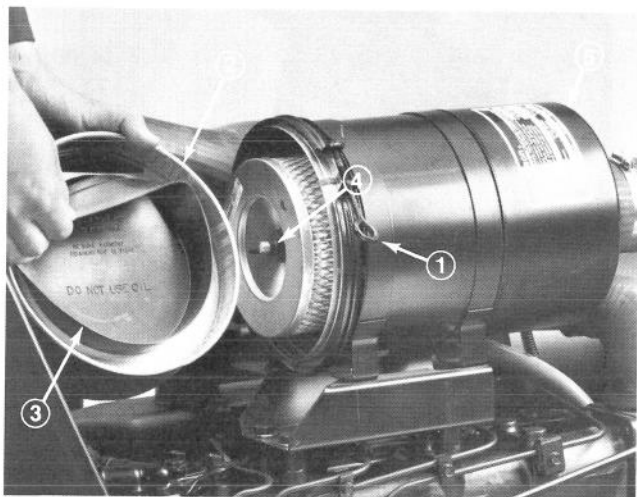

Figure 41
Once each week or every 50 hours operation, inspect and clean the dust cup and rubber baffle. However, daily or more frequent inspection is necessary when operating conditions are extremely dusty and dirty (Fig. 41).
2. Loosen thumb screw until dust cup and baffle can be removed (Fig. 41). Separate baffle from dust cup (Fig. 41).